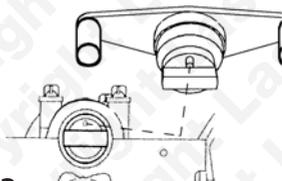

Fig. 2
2. The Injection Pump Setting Pin (C) aligns to a timing mark on the sprocket and is fitted through a recess in the injection pump flange and into the retaining hole. (see Fig.2)